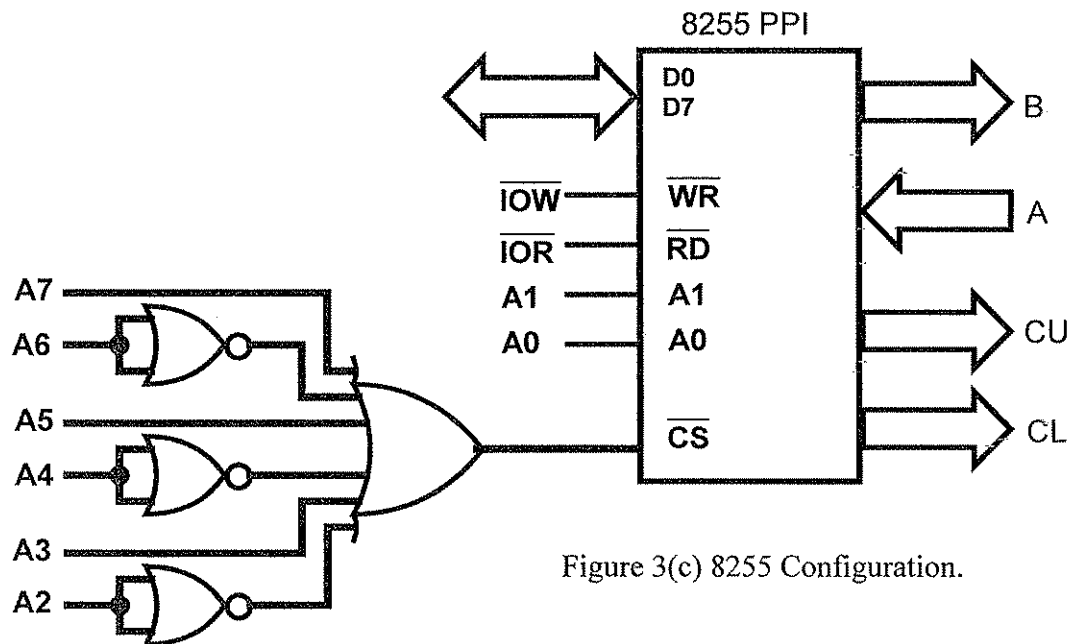

Figure 3(c) 8255 Configuration.
- (c) The 8255 PPI is configured as shown in Figure 3(c).
- (i) Find the port addresses and control register in Figure 3(c). Thus, program the PPI to set PC5 to high. Also include comments for any instruction used. (5 marks)